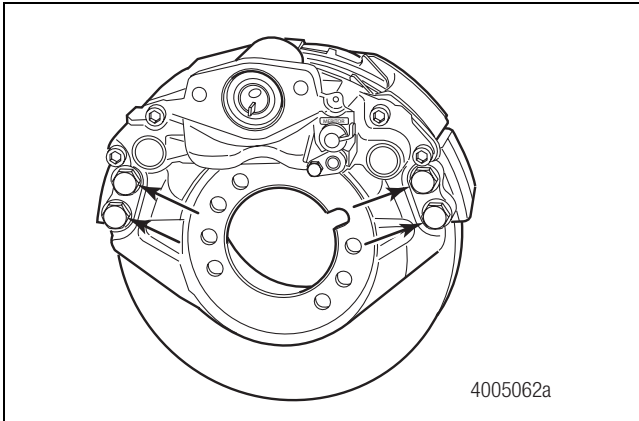

Figure 5.3
4. Use a 30 mm socket wrench (or extension adapter MST225 5001 if available) to remove the carrier bolts and washers. Refer to Section 10. Figure 5.3. Carefully remove the caliper assembly from the axle.